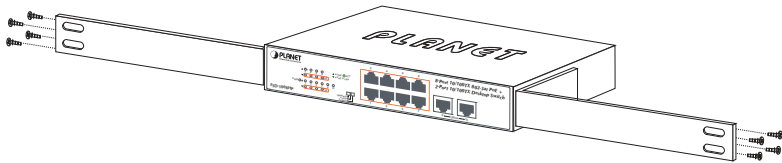

Figure 3-2: Attaching the Brackets to the FSD-1008HP.
Step 2: Attach a rack-mount bracket to each side of the FSD-1008HP with supplied screws attached to the package. Figure 3-2 shows how to attach brackets to one side of the FSD-1008HP.